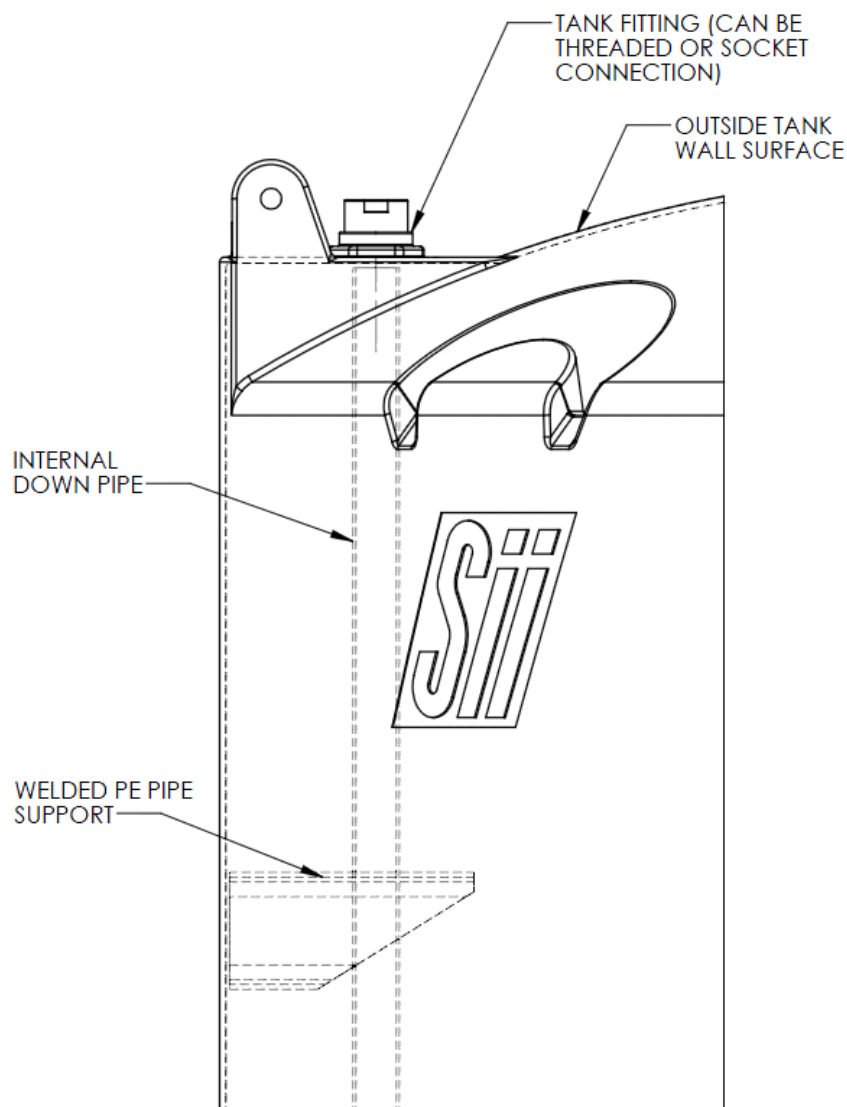

Figure 7.4
7.5.2 Assemble the piping loosely using Figure 7.4, the guidelines detailed below, and the customer approved tank drawing to ensure all parts are present and cut to meet the customer's requirements. The piping should be inserted into the holes in the welded support structures prior to installing the fitting in the tank. As soon as all parts have been checked, assemble the parts with solvent weld cement and/or threaded connections as shown in Figure 7.4. Seal all threaded pipe connections with Teflon pipe sealant and connect solvent weld sockets with the correct type of solvent cement.